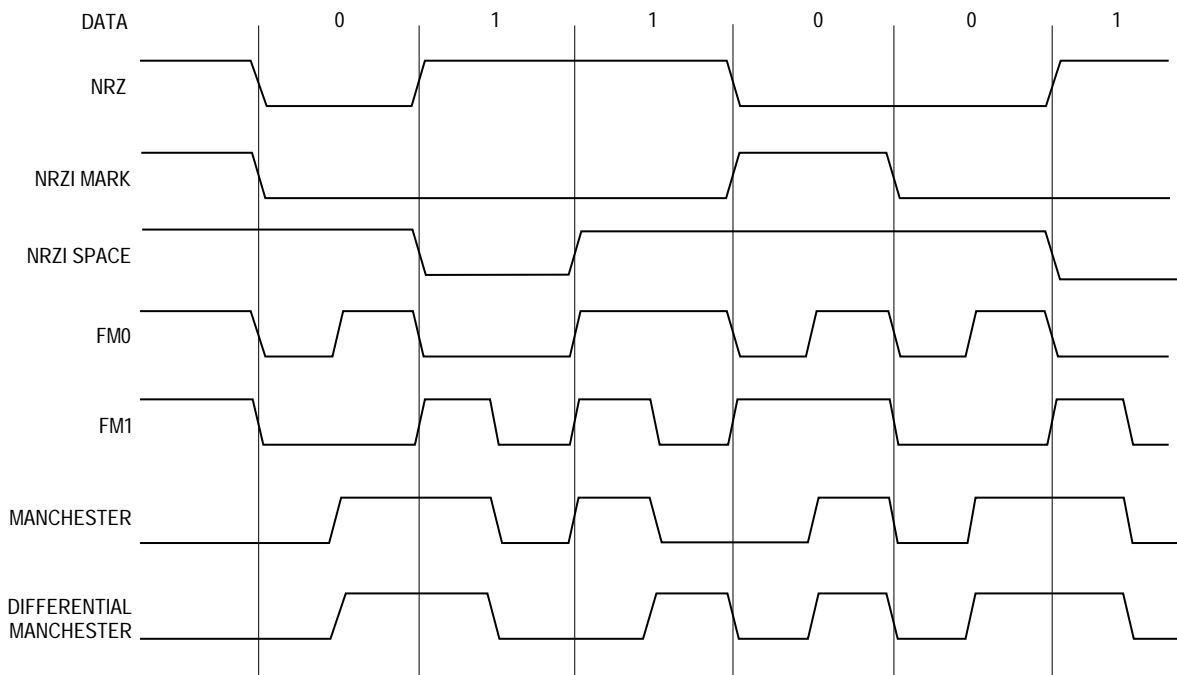

Figure 7-43. DPLL Encoding Examples
7.10.12.1 DATA ENCODING. Each SCC contains a DPLL unit that may be programmed to encode and decode the SCC data as NRZ, NRZI Mark, NRZI Space, FM0, FM1, Manchester, and Differential Manchester. Examples of the different encoding methods are shown in Figure 7-43.